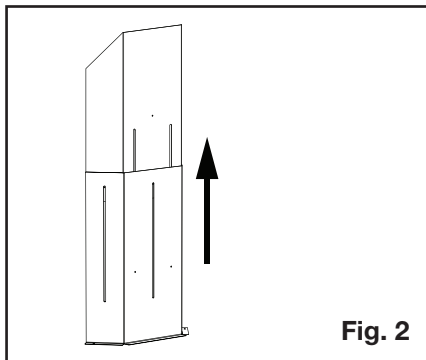

Fig. 2
2. Adjust vent shield to its maximum vertical (Figure 2).